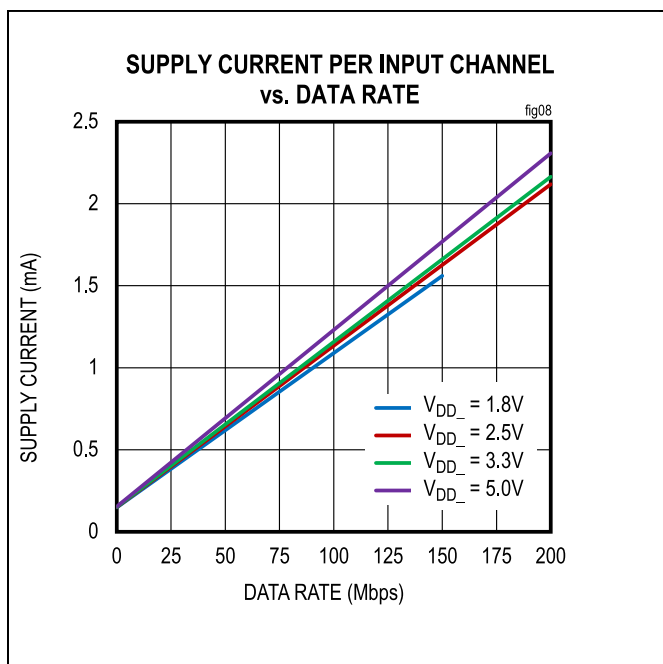
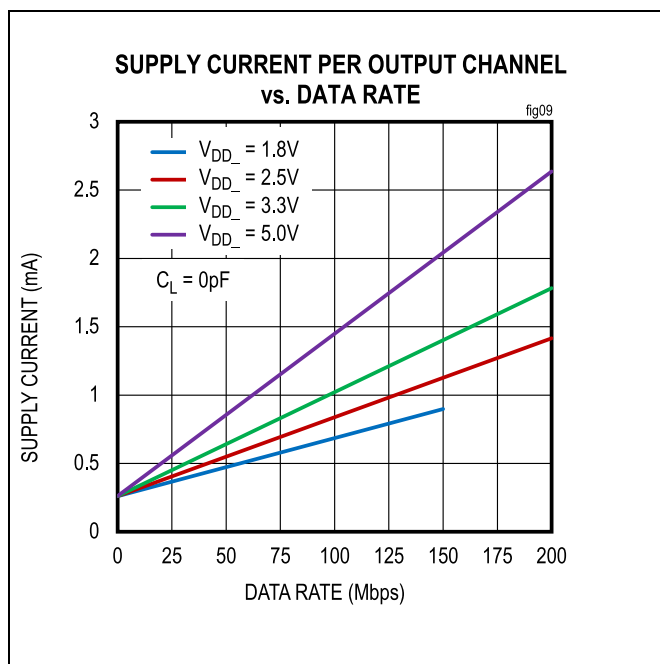

Figure 8. Supply Current per Input Channel (Estimated)
Figure 9. Supply Current per Output Channel (Estimated)
The required current for a given supply (V_{DDA} or V_{ddb}) can be estimated by summing the current required for each channel. The supply current for a channel depends on whether the channel is an input or an output, the channel's data rate, and the capacitive or resistive load if it is an output. The typical current for input or output at any data rate can be estimated from the graphs in Figure 8 and Figure 9. Note that the data in Figure 8 and Figure 9 are extrapolated from the supply current measurements in a typical operating condition.
The total current for a single channel is the sum of the no-load current (shown in Figure 8 and Figure 9), which is a function of voltage and data rate, and the load current, which depends on the type of load. Current into a capacitive load is a function of the load capacitance, the switching frequency, and the supply voltage.
- Channel 1 is an output channel operating at 2.5V and 100Mbps, consuming 0.84mA, estimated from Figure 9.
- Channel 2 is an input channel operating at 2.5V and 20Mbps, consuming 0.35mA, estimated from Figure 8.
- Channel 1 is an input channel operating at 3.3V and 100Mbps, consuming 1.16mA, estimated from Figure 8.
- Channel 2 is an output channel operating at 3.3V and 20Mbps, consuming 0.41mA, estimated from Figure 9.